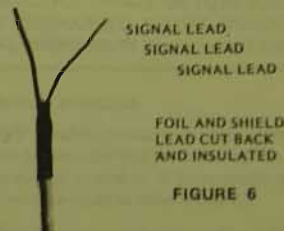

FIGURE 6
- Cover outside insulation at the termination point with shrink tubing or electrical tape, to keep foil stub from contacting any conductive surface. Wire should look like Figure 6.